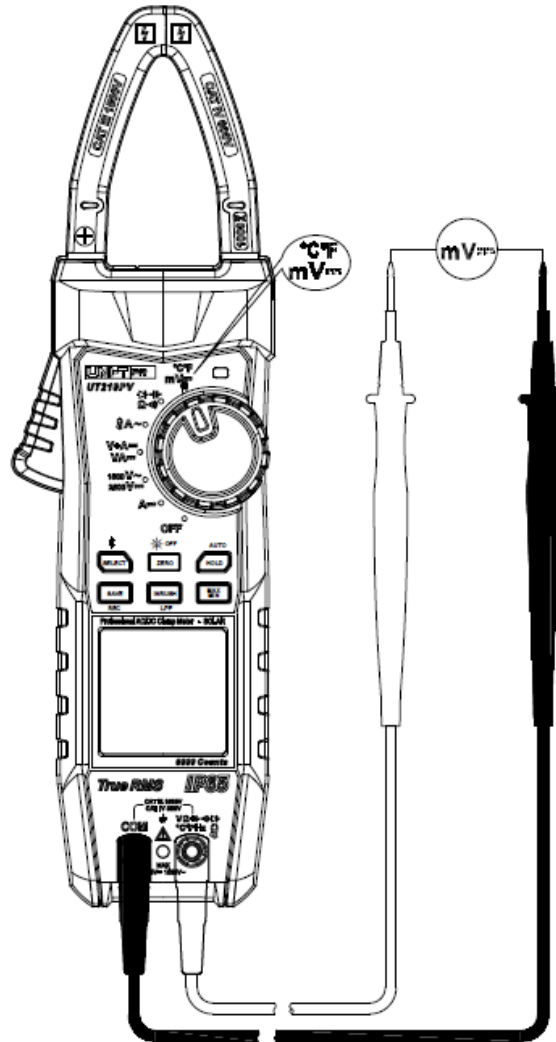

Figure 11
8. DC voltage (mV) measurement (Figure 11)